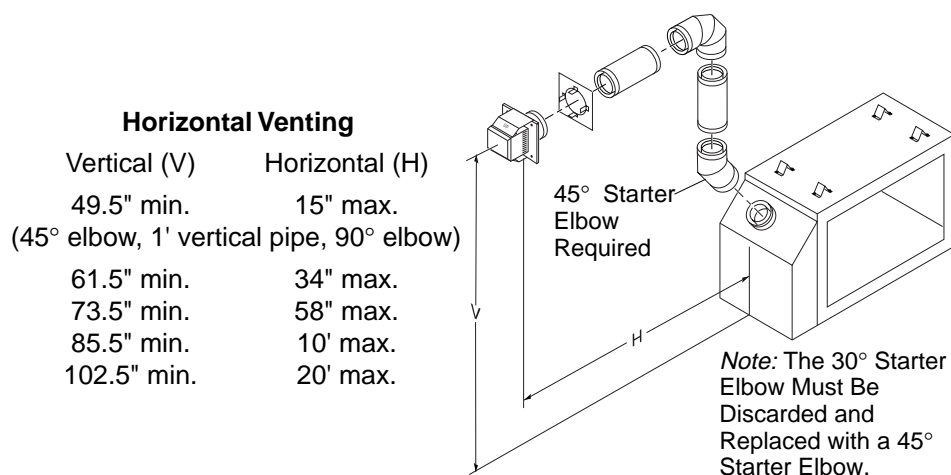

Figure 21 - Horizontal Termination Configuration for Rigid Venting Using One 90° Elbow
Figures 21 through 23 show different configurations for venting with horizontal termination. Each figure includes a chart with vertical minimum/maximum and horizontal maximum dimensions which must be met. All connections must be sealed with high temperature silicone sealant as specified in the second warning statement on page 7. All horizontal terminations require 1/4" rise per 12" of horizontal run.
See information in Figure 21 for Vertical(V) and Horizontal(H) maximums and minimums. The same amounts apply for flexible venting.